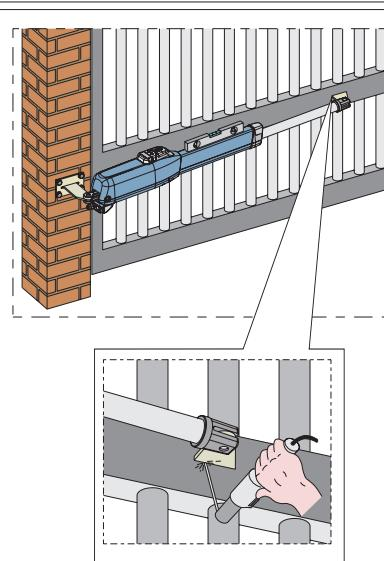

Fig. 12
- 9) Close the leaf and, keeping the operator in a perfect horizontal position, determine the fastening point of the front bracket (Fig.12).
10) Temporarily fix the front bracket with two welding spots (Fig.12).